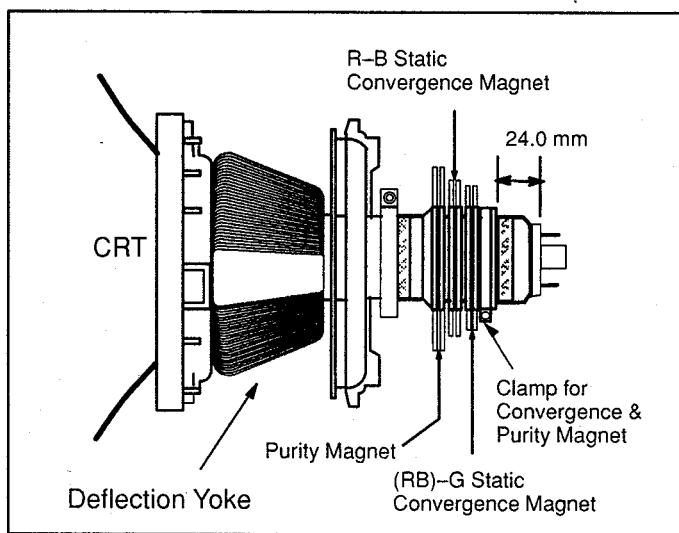

Fig. 24
- Loosen the clamp screw for the deflection yoke A in Fig. 24 and move the deflection yoke as close to the purity magnet as possible.
- Tighten the clamp screw A in Fig. 24.
- Fix the deflection yoke by re-inserting the DY wedges. Refer to Fig. 24.